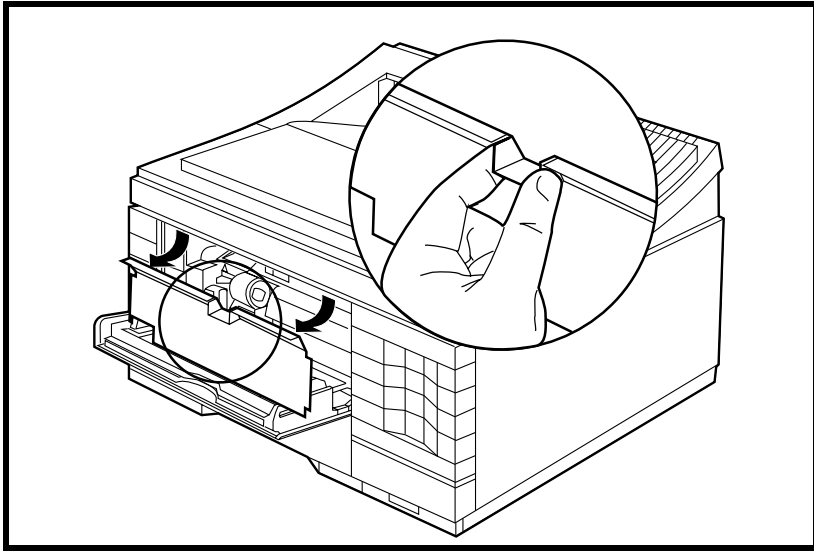

Figure 6-17 MP Tray Opening Cover
- 1** Remove the Right Side Cover, the MP opening cover, (see Figure 6-17), the Top Cover and the Left Side Cover, the Front Door Cover, and the PC tray (Tray 2). The MP tray need not be removed, but is shown removed for clarity.